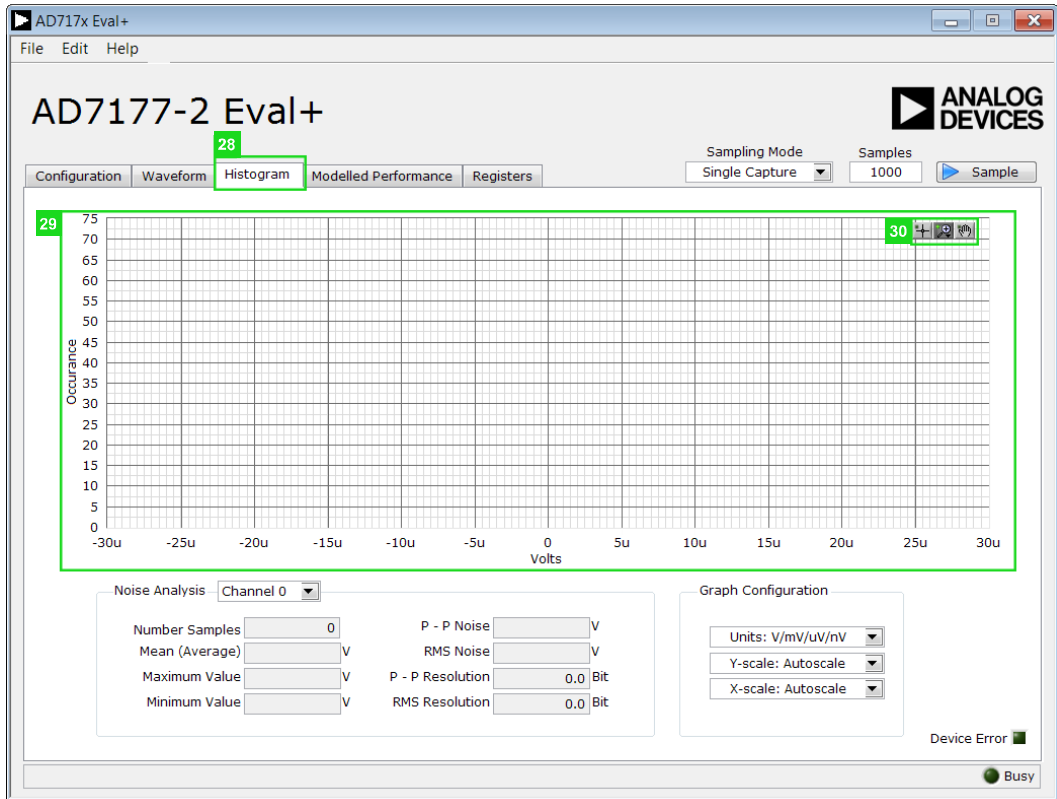

Figure 19. **Histogram** Tab of the AD717x Eval+ Software
Figure 19 shows the **Histogram** tab (28) of the AD717x Eval+ software.
The histogram graph (29) shows the number of times each sample of the ADC output occurs. The control toolbar (30) in the histogram graph allows you to zoom in on the data (see Figure 19). Click the x-axis and y-axis to change the scales on the graph.